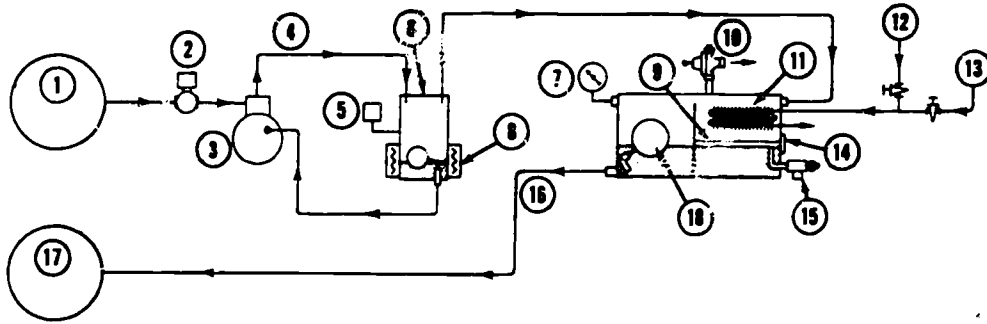

Figure 2. Purge Recovery Unit
- Using the centrifugal unit and figure 2, identify the components and their purposes by the corresponding numbers.